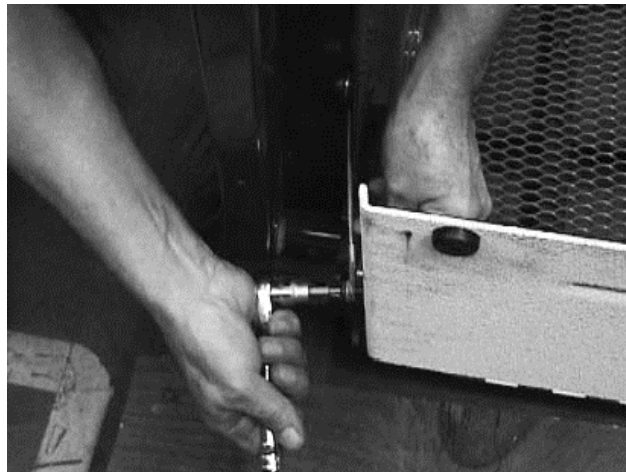

Figure 11. Detach Bridgeplate
12. Refer to **Figure 11**. Remove and retain bridgeplate cable hardware.
15. Re-install bridgeplate cable and hardware as shown in Figure 11.